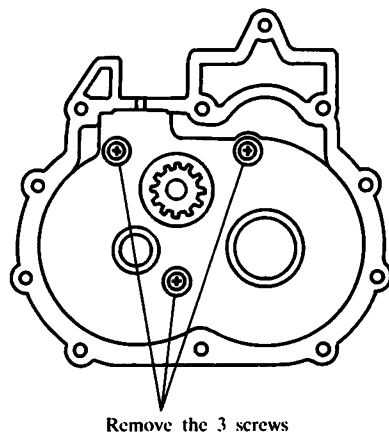

Fig. 20
- (1) Remove the three screws which are inside of the Gear box. The gear box comes off. (Refer to Fig. 20)